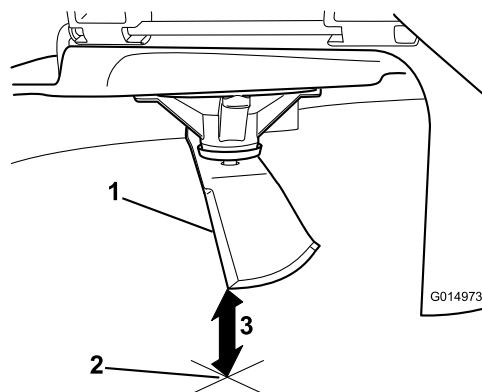

Figure 53
5. Measure from the tip of the blade to the flat surface (Figure 53).